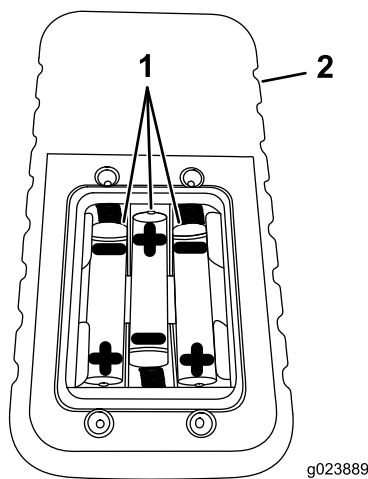

Figure 59
4. Install 3 new, AAA batteries in the orientation shown in Figure 59.